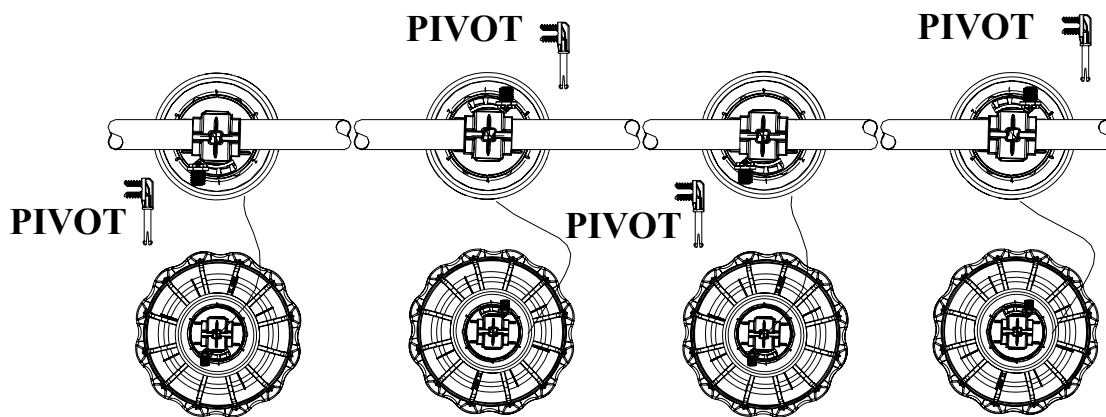

Figure 31. Assemble Feeders on tubes
- Rotate the auger tubes so that the seam is down, this holds the Pan Assemblies in place on the tubes. See Figure 31.
1) With the seam of the feeder tube up slide the pan assembly on the feeder tube. Position one (1) feeder pan over each hole on the feeder tube.